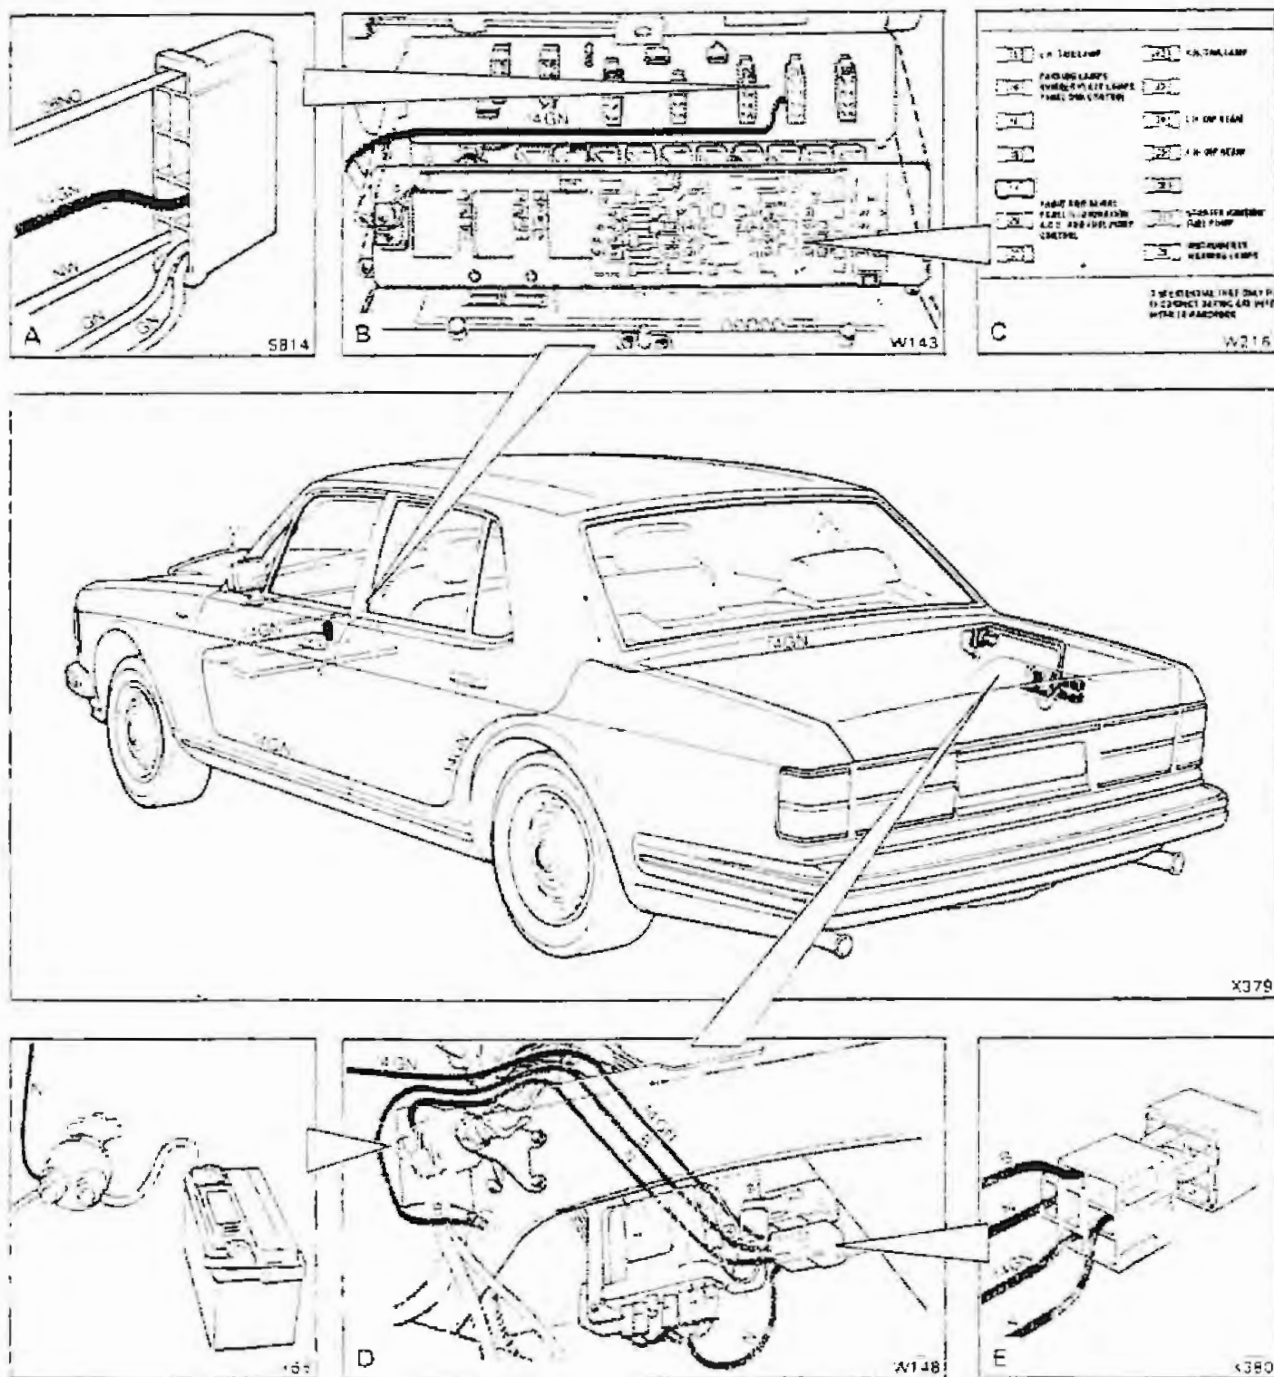

Fig. 2 Right-hand drive cars
16. Locate the terminated end of the Green/Brown wire into terminal number 86 in the relay socket provided in the kit of parts (see fig. 2, item E).
19. Remove fuseboard socket number 4 and terminate the Green/Brown wire with a socket type Lucar (UD 11298) (see fig. 2, item B).
20. Locate the Green/Brown wire in fuseboard socket number 4 next to and on the same side as the two existing Green/Brown wires (see fig. 2, item A).
22. With a suitable indelible pen, mark fuse number 19 on the fuseboard identification plate 'ALTERNATOR CONTROL UNIT' (see fig. 2, item C).
29. The other end of this Black wire should be terminated with the 5mm (3/16 in) cable eye and then earthed at the luggage compartment earth point marked in figure 2, item D.
30. The relay sockets can now be pressed onto the bracket (see fig. 2, item D) and the relay fitted.